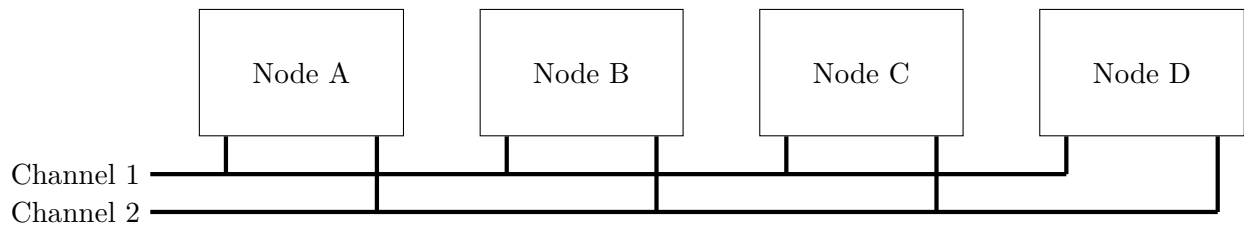
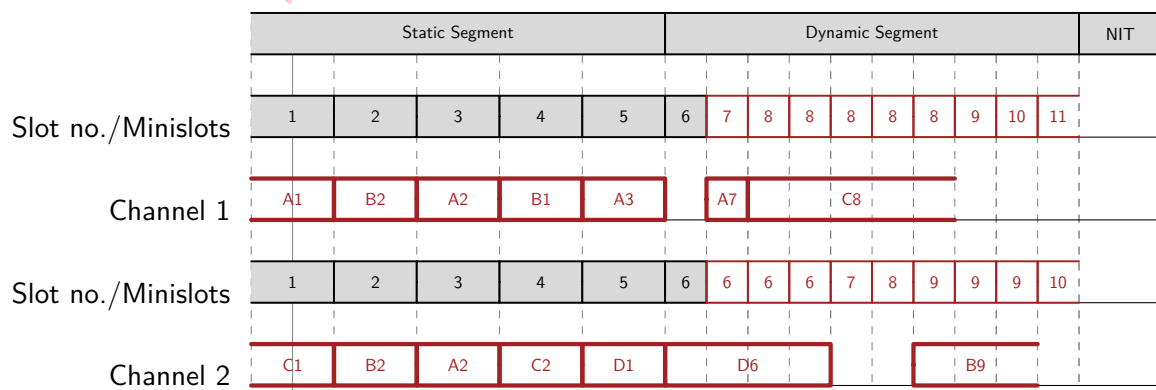

Figure 3.1: Flexray Topology
Figure 3.2: Signal sequence
In this task we want to investigate the data transmission and scheduling with Flexray. The used topology is shown in Figure 3.1. Additionally, the slot durations for the scheduling are given in Table 3.1.
A) In Table 3.2 the nodes shown in Figure 3.1 and the assignment of their available frames to the static slots are given. Complete the signal diagram in the Figure 3.2 and perform the static scheduling of the frames according to the Table 3.2.
B) Calculate the duration of a complete communication cycle! Assume a Network Idle Time (NIT) of $1\mu s$ and that all minislots depicted in Figure 3.2 are idle!
D) In Table 3.3 the parameters for the dynamic segment are given. Complete the signal diagram in the Figure 3.2 and perform the dynamic scheduling of the frames for Channel 1 and Channel 2 according to the Table 3.3. Number the minislots with slot IDs dependent on the length of your scheduled frames. Note that each channel offer its own minislots for transmission.